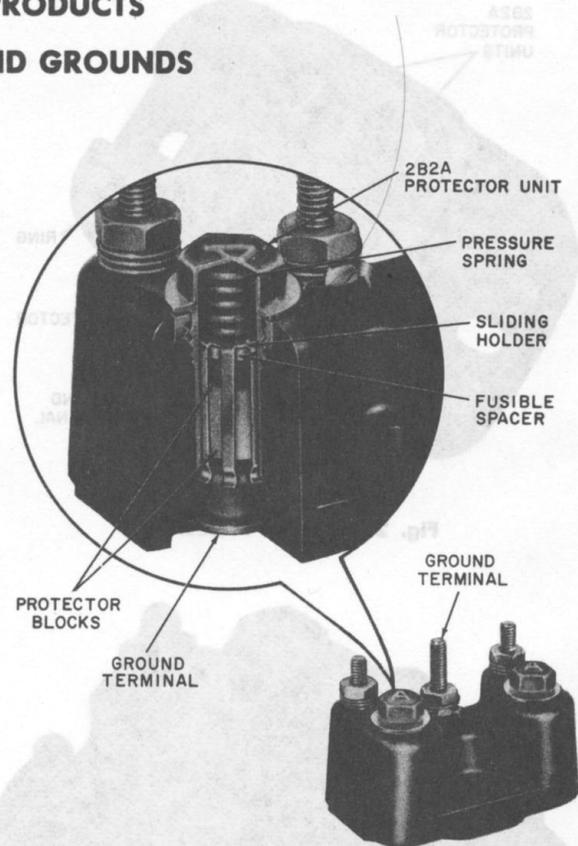

Fig. 1—123A1A Protector
**2.01** The 123A1A (Fig. 1), 123B1A (Fig. 2), and 128A1A-2 (Fig. 3) protectors provide protection against abnormal voltage and current for one or two pairs of wires at subscriber's premises. The 123B1A is recommended for use in areas where lightning activity results in high maintenance costs.